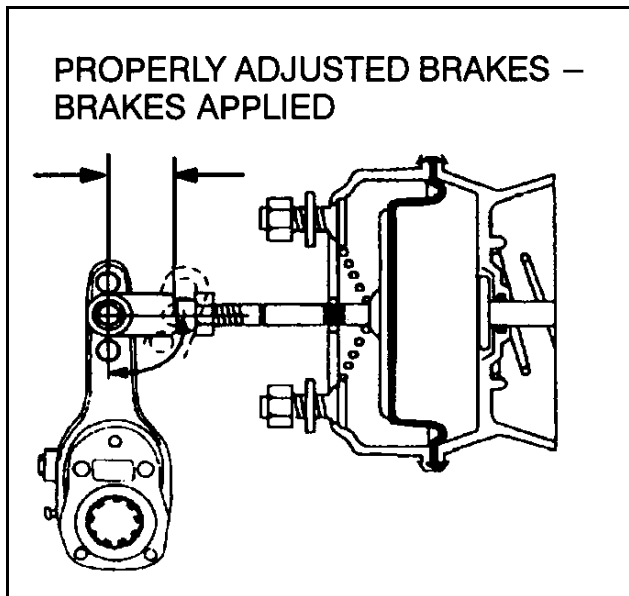

Figure 22 Properly Adjusted Brakes - Brakes Applied
8.2. PROPERLY ADJUSTED BRAKES - BRAKES APPLIED (FIGURE 22(SEE FIGURE 22, PAGE 19))